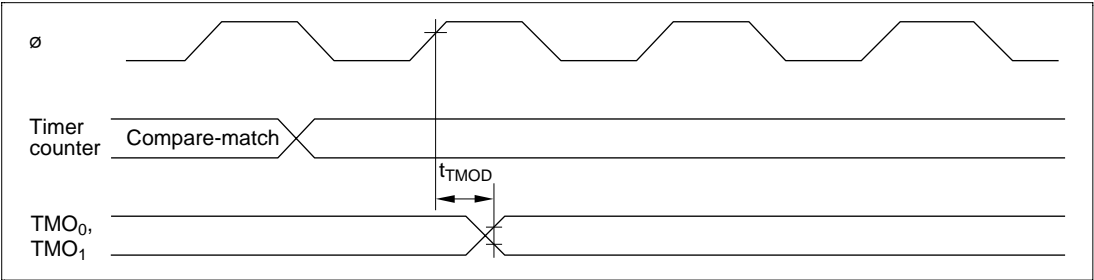

Figure 23.15 8-Bit Timer Output Timing
23.5.4 8-Bit Timer Timing	Figures 23.15 to 23.17